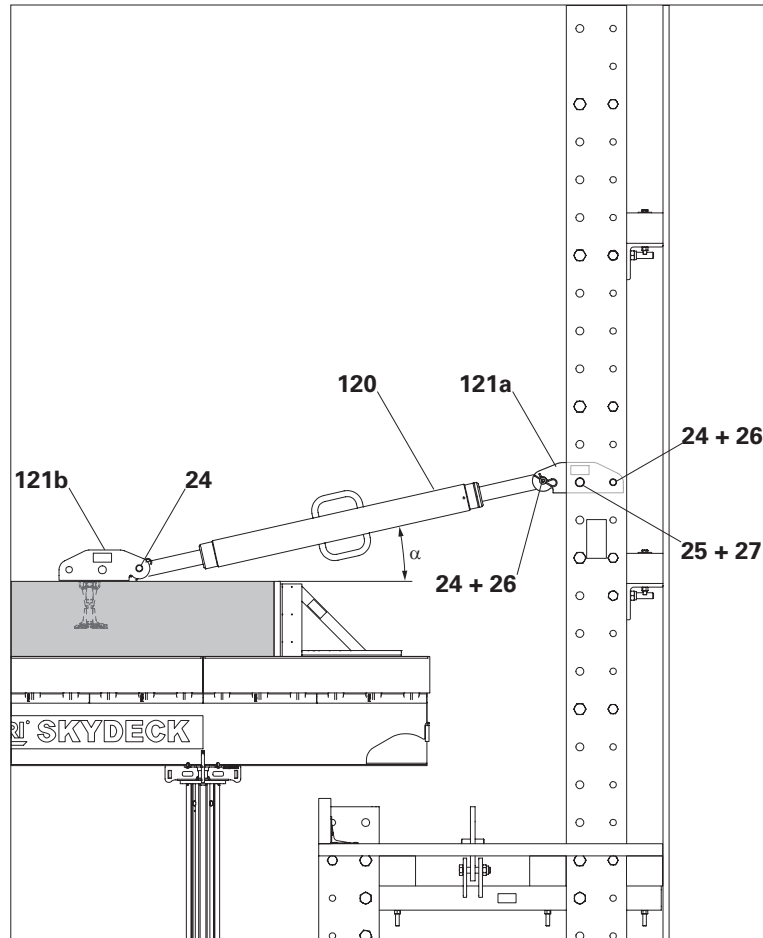

Fig. D1.10
3. Attach a second spindle shoe (**121b**) to the heavy-duty spindle (**120**) using fitting pin Ø21 and cotter pin (**26**). (Fig. D1.10)